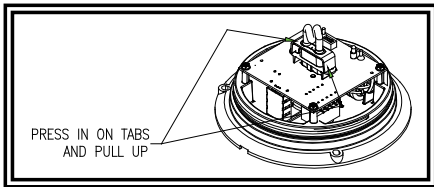

Figure 5
2. If the wiring or battery is not at fault, the flashtube may be defective. To replace the flashtube, remove the flashtube by squeezing on the tabs on the side of the tube holder and pulling off. See Figure 5. Plug in the new flashtube. Do not touch the glass of the new flashtube with your fingers. Use gloves or a soft cloth. Note: The connector is keyed to ensure proper orientation. Do not force. Reassemble the strobe. If this has not remedied the problem, return product to your local dealer for warranty replacement, or call ECCO Customer Service for assistance (800) 635-5900.